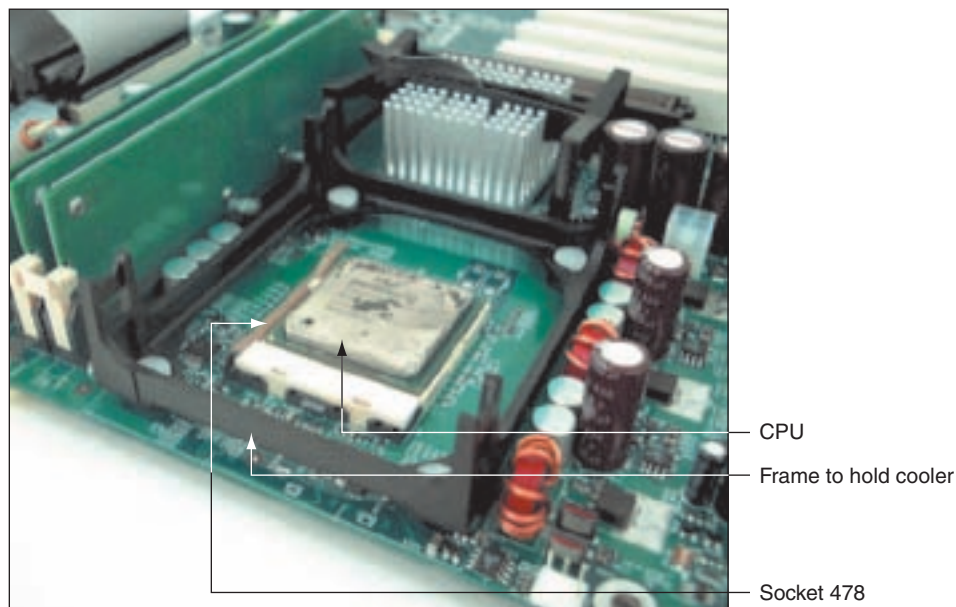

Figure 6-40 A Pentium installed in Socket 478
1. Use the lever to open the socket, open the load plate, carefully install the processor, and return the lever to its position. Figure 6-40 shows the processor installed. In the figure, notice the frame or retention mechanism used to hold the cooler in place. This